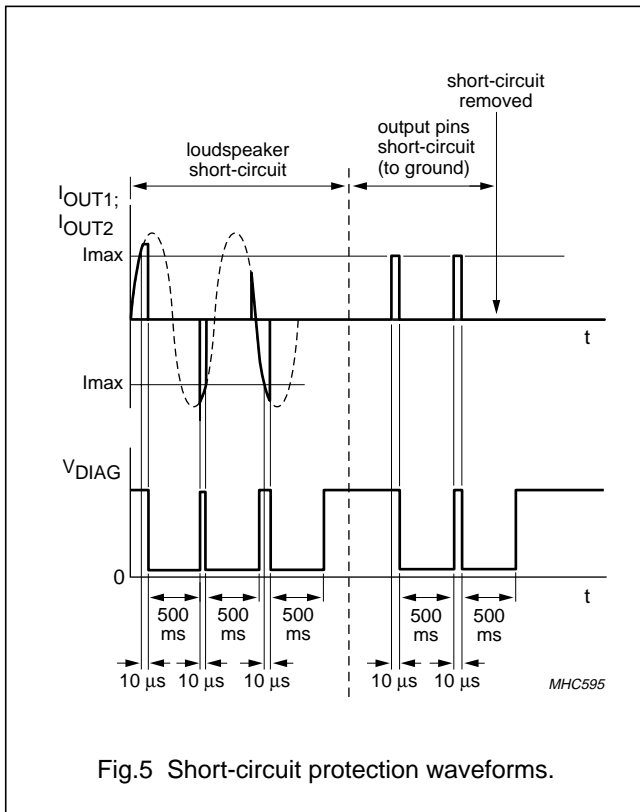

Fig.5 Short-circuit protection waveforms.
- Short-circuit protection (see Fig.5):